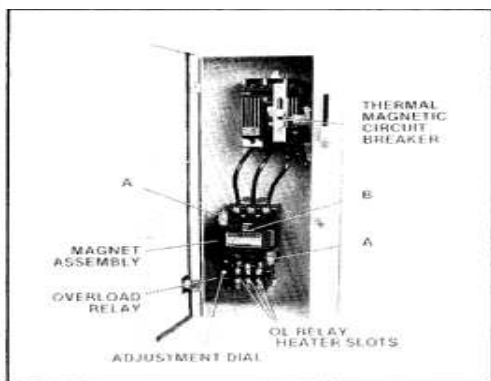

Figure 1—Typical CR307 magnetic combination starter
2. Press against coil while pulling up slightly on coil retainers (A—Figure 1 or 2) and move retainers away from coil.
4. Withdraw spring clip (B—Figure 1 or 2) and remove armature from movable arm.